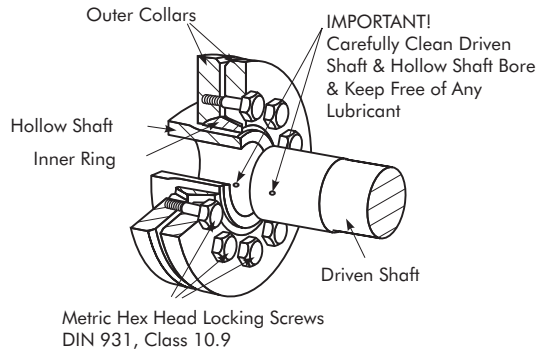

Figure 1— TYPICAL SHRINK DISC
New shrink discs are supplied ready for installation. Prior to tightening the locking screws, remove the spacers (used to protect the inner ring during shipment) from between the outer collars. Figure 1 shows a cutaway drawing of a typical shrink disc.
2. Carefully clean hollow shaft bore under shrink disc and driven shaft OD of all lubricants with solvent before assembly of gear drive to driven shaft (Figure 1). Any traces of lubricant left on the driven shaft or hollow shaft bore under the shrink disc will significantly reduce the torque transmission capacity of the shrink disc.